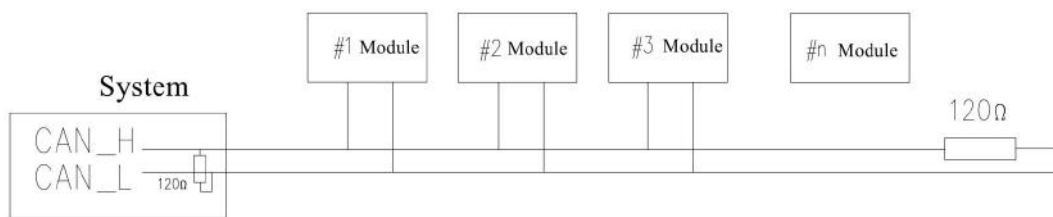

Figure 3-12 System communication wiring connection diagram
- The CAN bus needs to adopt the bus connection method, and a 120Ω resistor needs to be added at both ends of the front and back. The resistance of the CAN bus is 60Ω, and the front side can be placed inside the monitor(controller), as shown in Figure 3-12